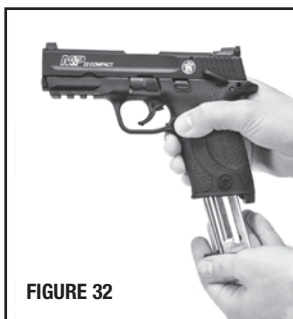

FIGURE 32
- Depress the magazine release, and remove the magazine (FIGURE 32).